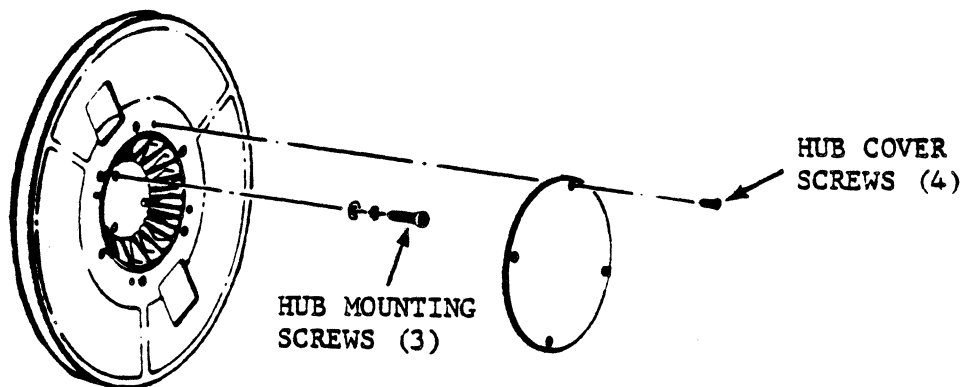

Figure 6-13. Take-Up Reel
1. Remove four mounting screws from take-up reel hub cover and remove cover from hub assembly (refer to figure 6-13).